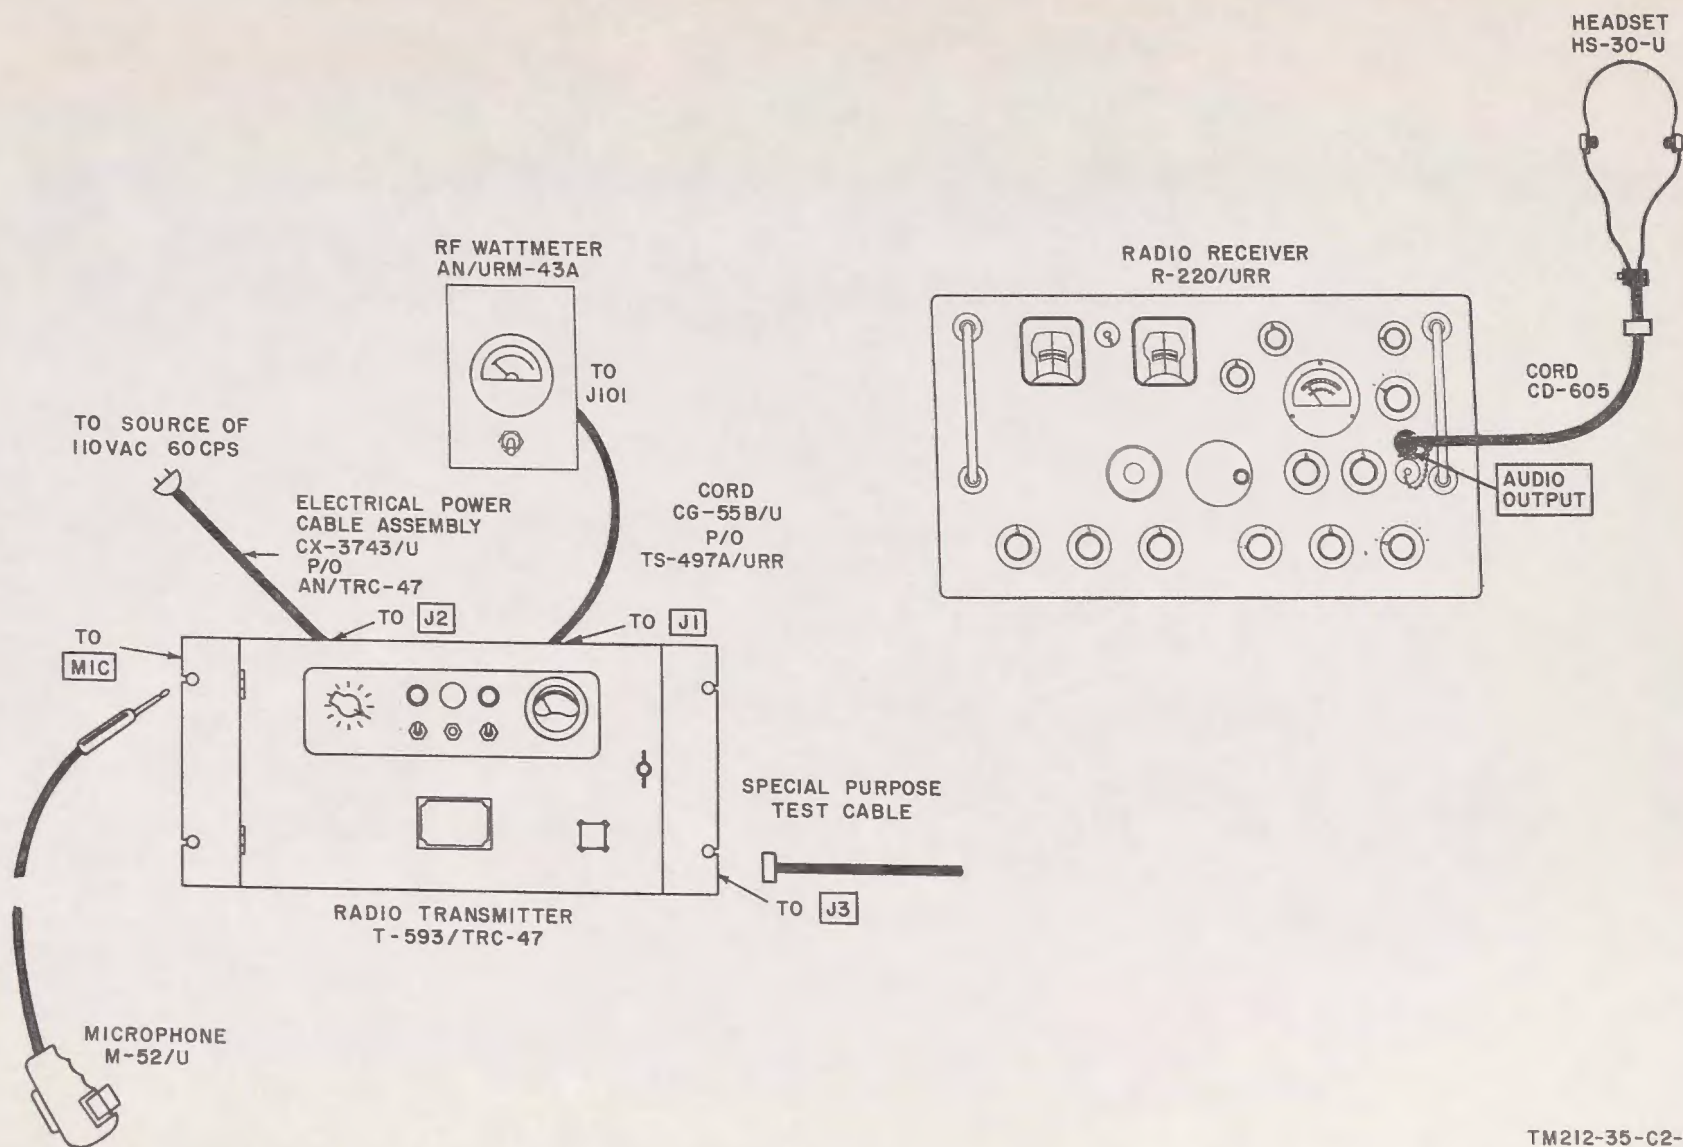

Figure 48.10. (Added) Transmitter operational test.
b. Test Connections and Conditions. Connect the equipment as shown in figure 48.10.